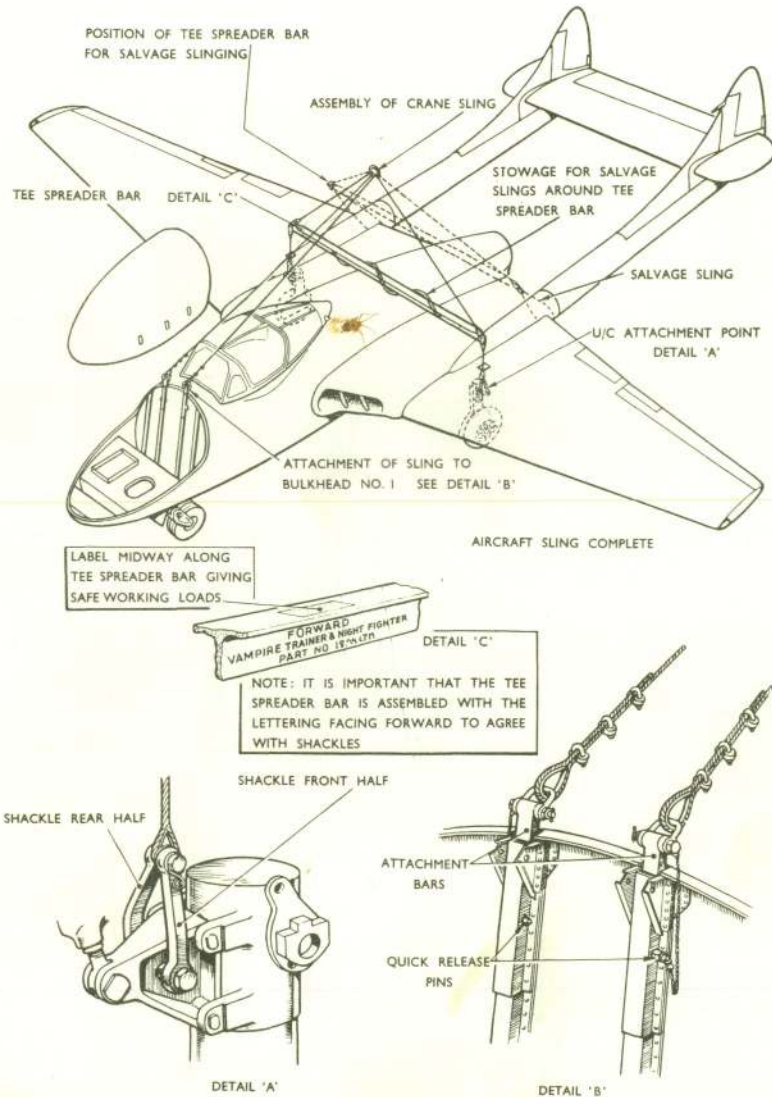

Fig. 4 Slings
7. Before attaching the aircraft sling shown in Fig. 4, the fuselage metal nose cap must be removed by unscrewing the stiffnut securing the support strut to the nose cap and removing the two hinge bolts. For all-up-weight of the aircraft under various loading conditions, refer to Chapter 3 of this Section.